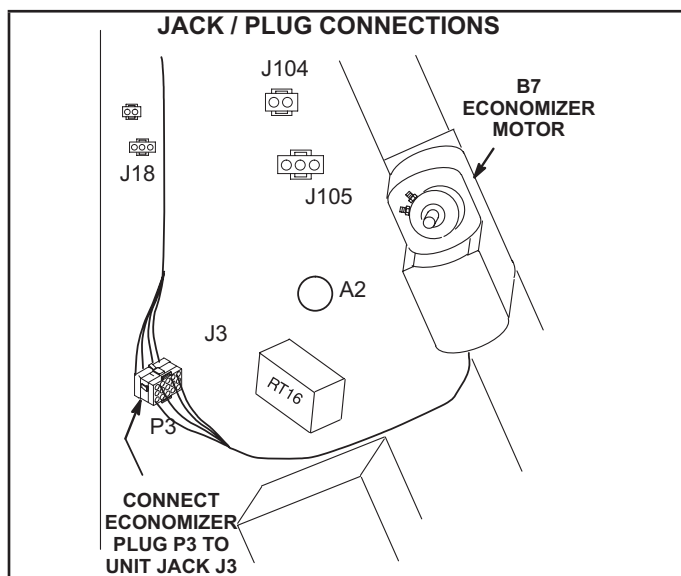

FIGURE 2
- 5 - Connect economizer plug P3 to unit jack J3 as shown in FIGURE 2.